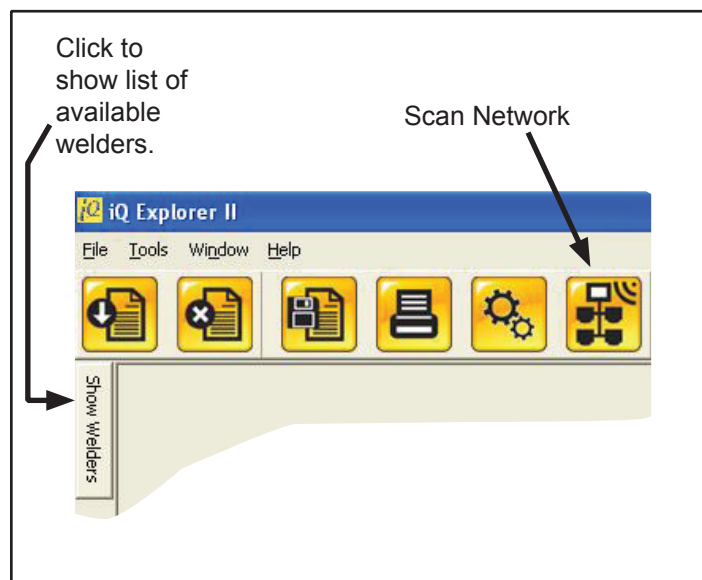

Figure 5-4 Show Welders - 1
- When connection has been made, the welder(s) available to the software are shown when the user presses the **Show Welders** button on the toolbar on the left of the application. See Figure 5-4 to the right.